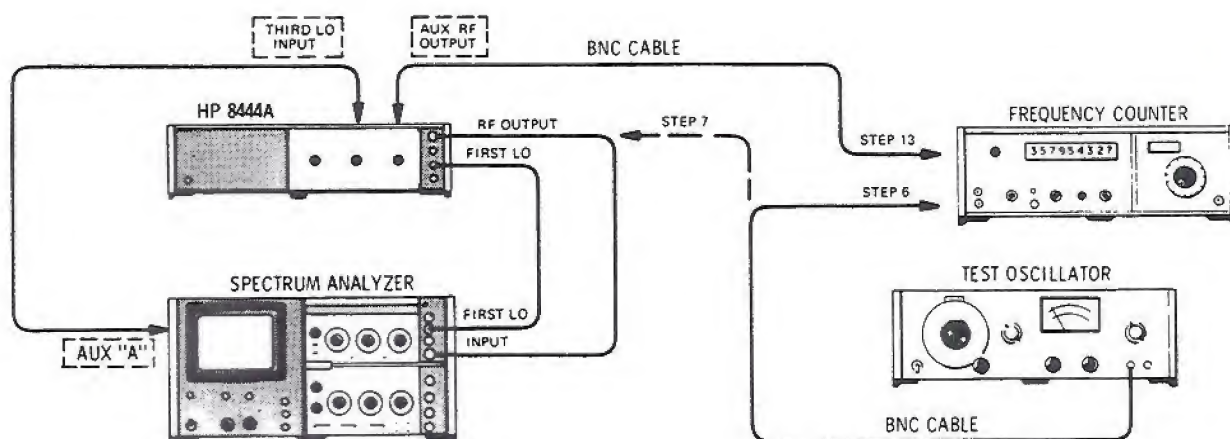

Figure 4-5. Frequency Accuracy Test Setup
2. Connect test setup as indicated in Figure 4-5 and make the following control settings: